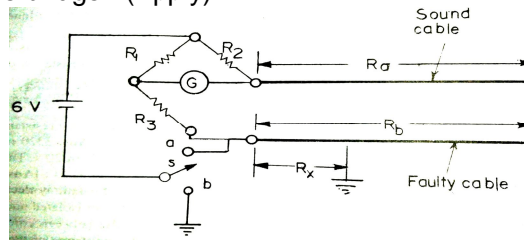

Figure 3
4. A Wheatstone bridge is connected for identify the cable fault as shown in Figure 3. When the switch is in position a, the bridge is balanced with $R_1=1000\Omega$, $R_2=100\Omega$, $R_3=53\Omega$. When switch S is in position b, the bridge is balanced with $R_1=1000\Omega$, $R_2=100\Omega$, $R_3=52.9\Omega$. if the resistance of the shorted wire is $0.015\Omega/m$. What is the distance between the place of fault and the bridge? (Apply)